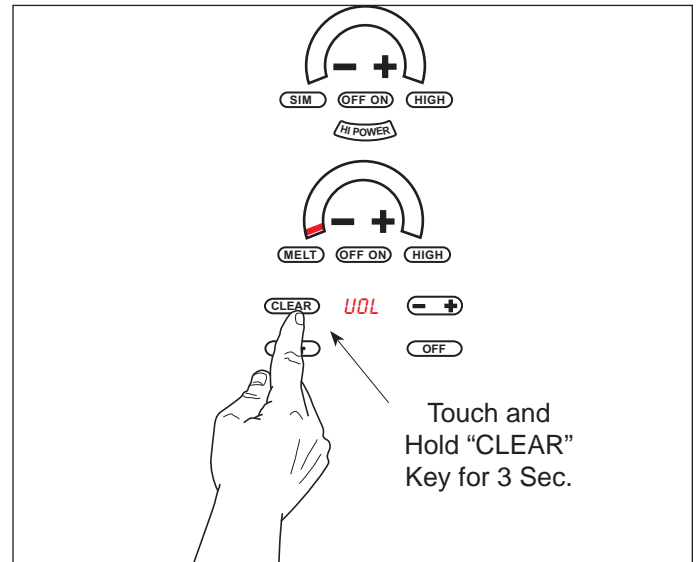

Figure 3-19 Entering User Options - Volume
1. Touch and hold "CLEAR" pad for 3 seconds will activate the Volume adjustment. The 3-digit display will show "UoI". (See Figure 3-19)